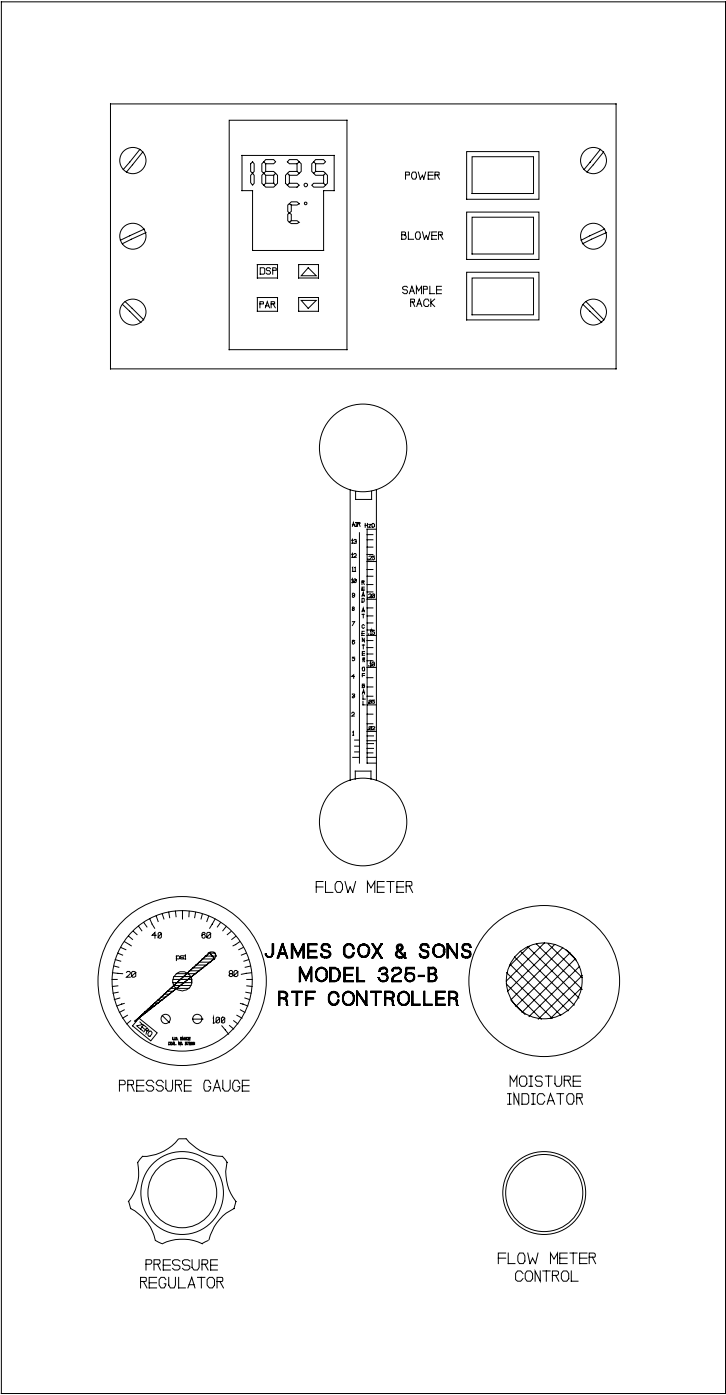

Fig. 1
7.	Control Panel Layout-Front Fig.1